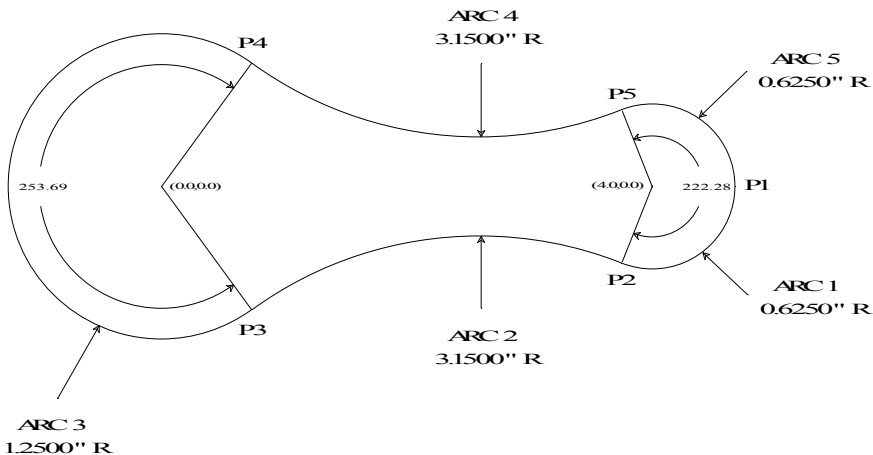

FIG 3. Tangent point and arc reference.
The first arc to be cut is labeled as ARC 1 in Figure 3 shown on the following page. The start point, labeled P1, is the end point of the previous move. The end point of the arc will be generated with **Math Help**. We will be using end point and radius (EP&R) arcs.
- F8 Arc Tangent Arcs This scenario will generate tangent points P2 - P5 of Figure 3. The following screen will appear:
Last Solution (for arcs 1 and 2 of Figure 3)